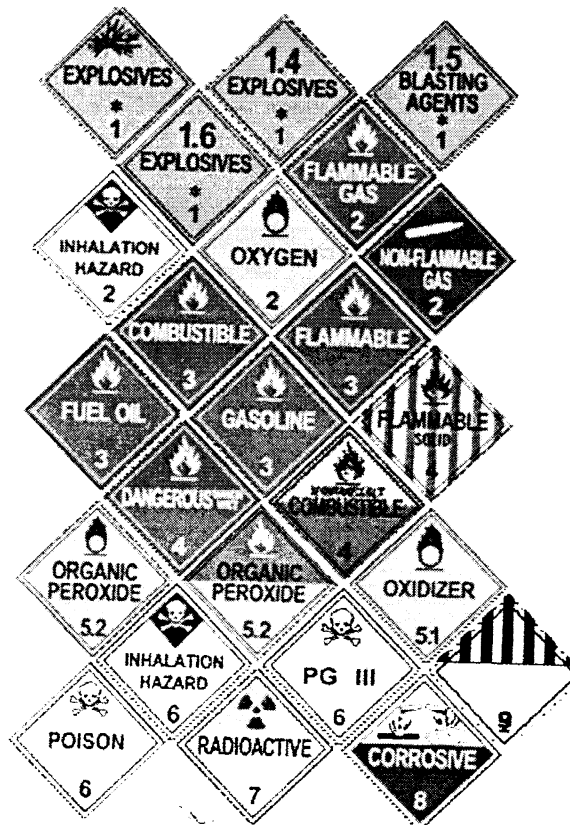

Figure 2.25
**To Communicate the Risk.** The shipper uses a shipping paper and diamond-shaped hazard labels to warn dockworkers and drivers of the risk. Shipping orders, bills of lading, and manifests are all examples of shipping papers. The shipping paper describes the hazardous materials being transported. Shippers put diamond-shaped hazard warning labels on most hazardous materials packages to inform others of the hazard. If the diamond label will not fit on the container, shippers put the label on a tag. For example, compressed gas cylinders that will not hold a label will have tags or decals. The diamond-shaped labels look like the placards shown in Figure 2.25.
Not all vehicles carrying hazardous materials need to have placards. The rules about placards are given in Section 9 of this manual. You can drive a vehicle that carries hazardous materials if it does not require placards. If it requires placards, you cannot drive it unless your driver license has the hazardous materials endorsement. See Figure 2.25.